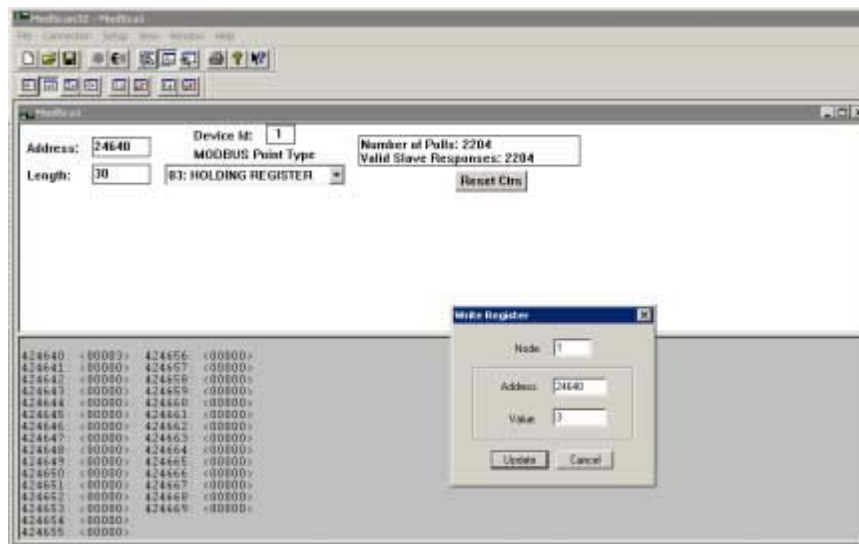

Figure 1.14: ModScan32 Master TCP changing RTU serial address to 3
4. With TCP communications established poke the Serial RTU address into Modbus register 24620. This is done by double clicking that address on the ModScan32 screen whereupon the Write Register dialog will appear, figure 1.14. COM1 is now running the RTU Serial protocol and will only respond to the address value entered. Make sure you are set for Holding Registers and the Length field is less than or equal to 50.